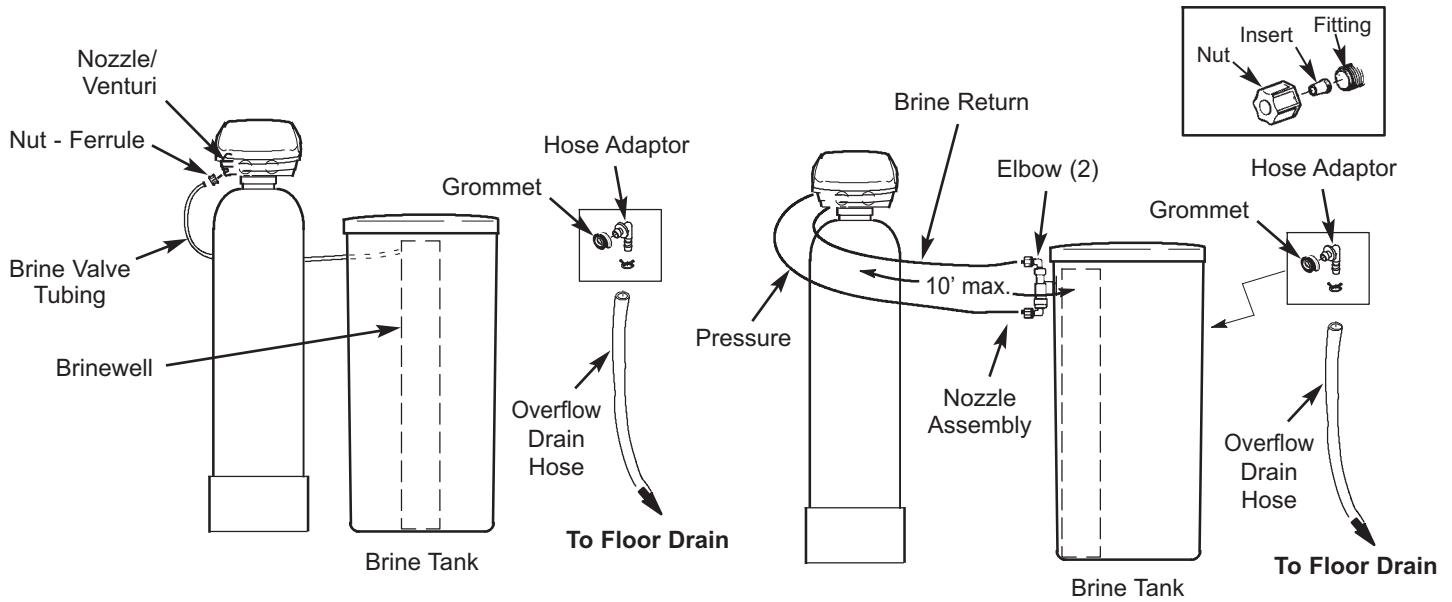

FIG. 7
2. **Softener Models: Move the brine tank assembly into position** nearby the resin tank. Enough tubing is included to allow locating the tank up to 10 feet away from the resin tank (Figure 7).
3a. **Softener Model 071 - Connect Tubing:** Thread the brine tube through the hole of the brine tank sidewall. Fasten tubing to the nozzle assembly (Figure 7) using the compression nut-ferrule, tightening securely, by hand only.
i. Install two elbows (in separate parts bag with the brine tank) into the top and bottom of the nozzle assembly (Figure 7).